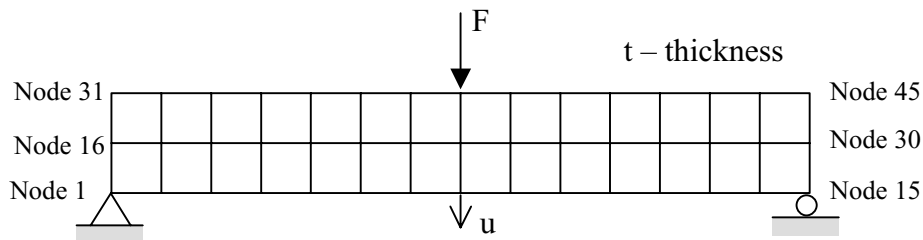

Figure 1. 2D beam
Figure 1 shows a possible geometry and mesh you could use, but you can also make up your own. It must have geometry, force and restraint boundary conditions and a point of interest. To create and understand the ABAQUS input file format, you can:
- III. Study the input file for the problem in Figure 1, which is attached and described below.
The problem in Figure 1 is a 2-D plane stress problem. The input file for this problem is attached below in the Appendix. Here is the description of it: